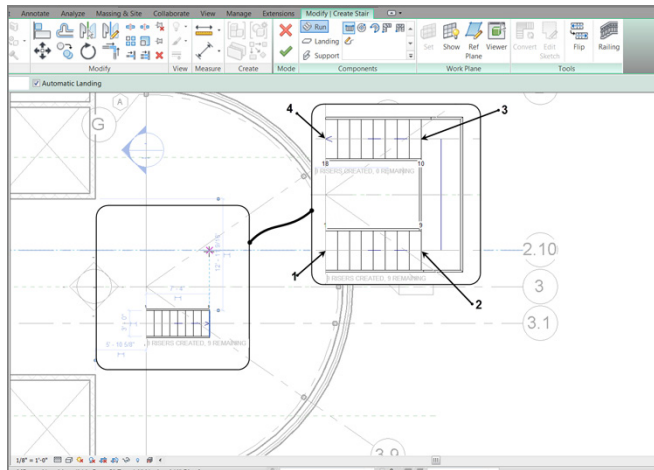

FIGURE 10.4: Laying out the stairs
10. Pick the intersection of the floor edge and grid 3.1 for the first point of the stairs. This spot is labeled 1 in Figure 10.4.
13. When you see that nine risers have been created with nine risers remaining, pick the spot labeled 2 in Figure 10.4.
14. Move your cursor straight up (north) until you get to the grid intersection labeled 3 in Figure 10.4. When you see this, pick the third point.
15. Move your cursor to the left—all the way past the floor landing. Revit reports that you have 18 risers created and 0 remaining (see Figure 10.4).
16. When the second leg is completed, pick the last point. Revit draws both legs as well as the landing (see Figure 10.4).